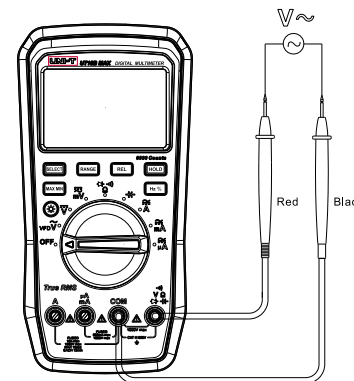

Figure 3
**1. AC Voltage Measurement (Figure 3)**